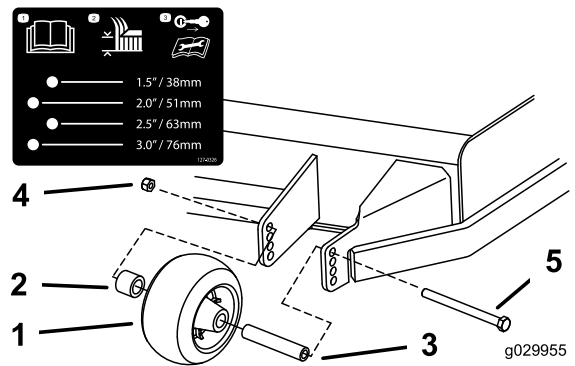

Figure 30
3. Adjust the anti-scalp rollers as shown in Figure 30, Figure 31, and Figure 32.